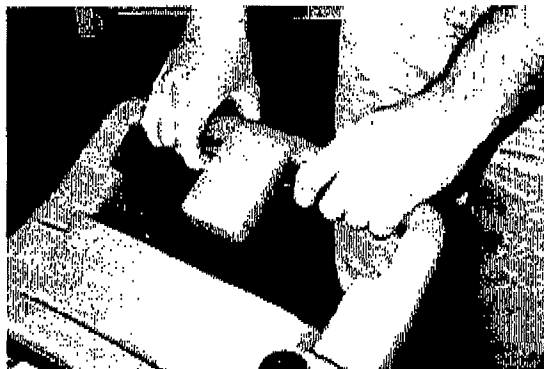

FIG. 23
4. Pull brush triggers and begin walking with machine. The brush will propel the machine forward allowing little effort maneuvering the machine (Figure 23).